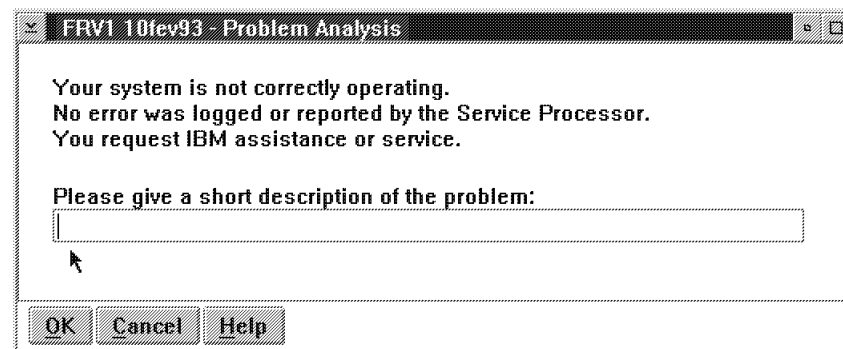

Figure 3-10. Link to RETAIN
4. ____ See Figure 3-10 on page 3-9, enter a **short description** of the problem then click on "**OK**".